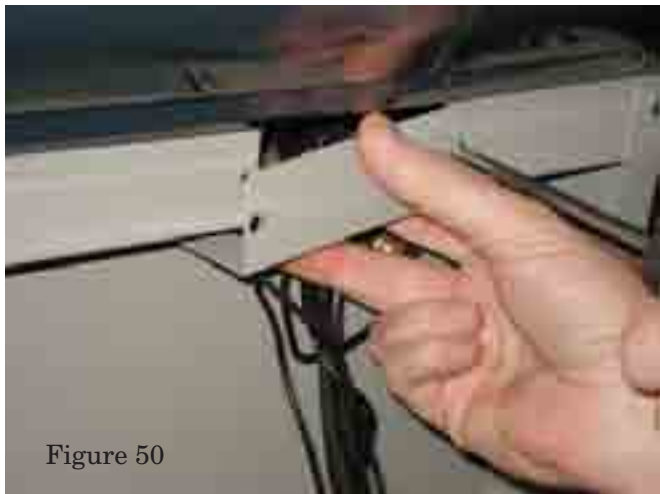

Figure 50
11. Replace the strain relief access panel, close and secure the control box, and replace the front and top boiler panels. Restore power and check out limit switch operation per boiler installation instructions. See Figure 50.